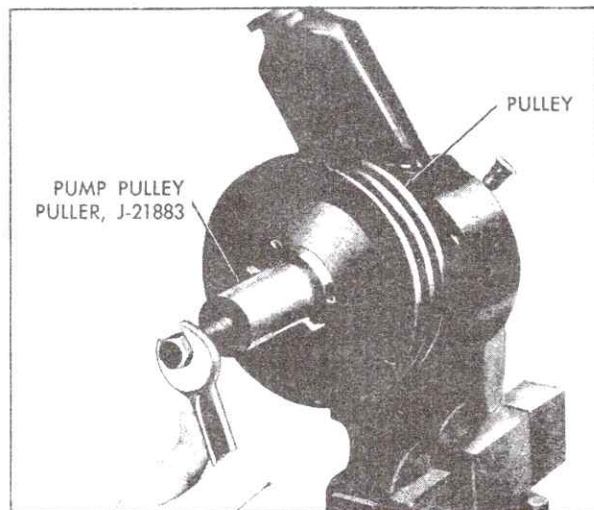

Fig. 9-13 Removing Pump Pulley
5. Clamp mounting bracket in vise with pump attached and remove pulley from shaft using Pump Pulley Puller, J-21883, Fig. 9-13.
2. Clamp mounting bracket in vise with pump attached and remove pulley from shaft, using Pulley Remover, J-21883, Fig. 9-13.